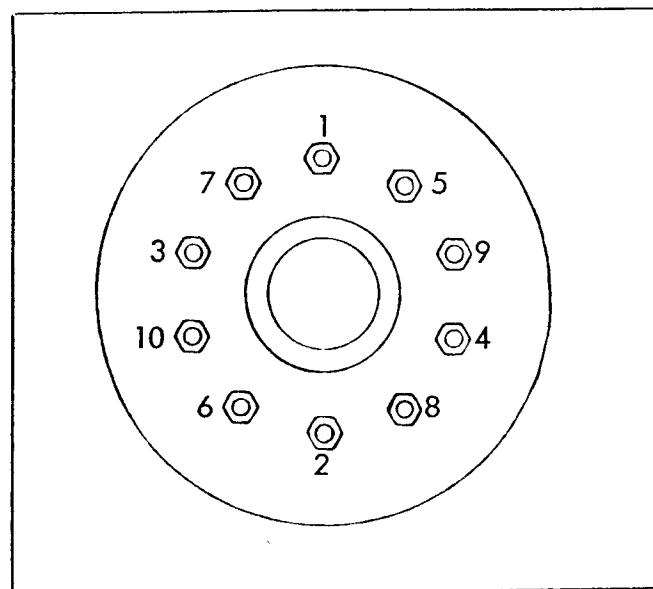

Figure 15-2: Stud Tightening Sequence
It is important that wheel stud nuts be tightened alternately on opposite sides of wheel. Refer to Figure 15-2 for suggested sequence for tightening and a recommended procedure following.
(A) Run the stud nuts in lightly referring to Figure 15-2 for sequence so that wheel will position itself concentrically with hub. This is important, otherwise wheel may be eccentric with hub and will not run straight. In this initial step, run the nuts up only as necessary to correctly position wheel.
(B) Tighten stud nuts progressively as shown in Figure 15-2 with an impact wrench. But final tightening should be done with a torque wrench. Tighten stud nuts to 450-500 ft. lbs.